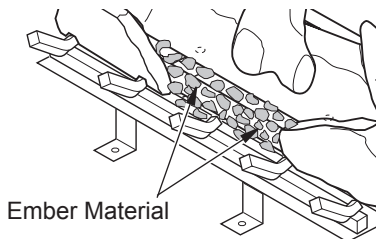

Figure 49 - Placing Ember Material on Burner
8. Pull ember material apart into pieces no larger than a dime. Place these pieces loosely and sparingly directly onto the exposed section of the front burner and along the space between the burner and grate prongs (see Figure 49). This will create the glowing ember appearance as the flame touches the ember material. Do not block air slots by using too much ember material in one area. It is not necessary to use all of the ember material provided.